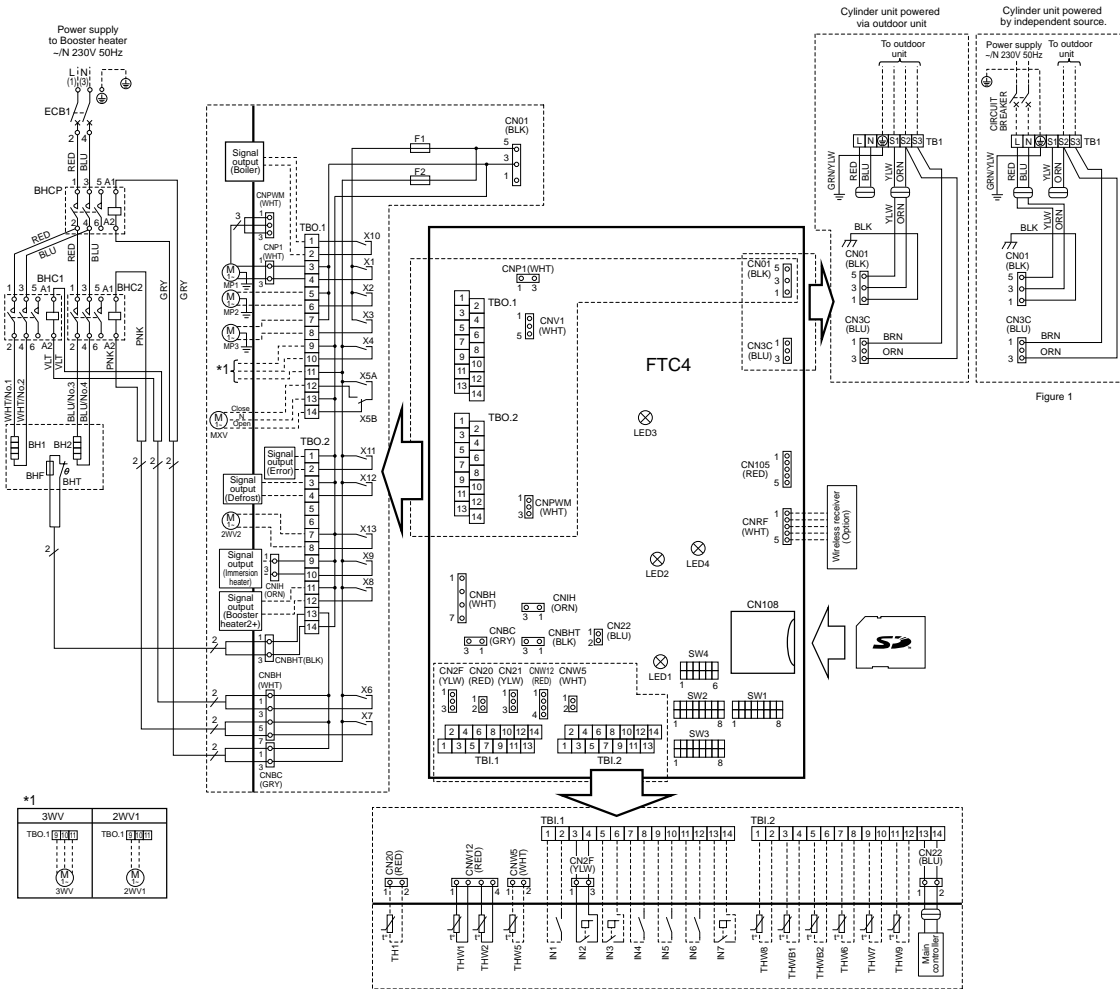

Figure 1
- This diagram shows the wiring of indoor unit and outdoor unit connecting wires (specification of 230V), adopting superimposed system of power and signal. When work to supply power separately to indoor unit and outdoor unit was applied, refer to Figure 1.
4. This diagram shows the wiring of indoor unit and outdoor unit connecting wires (specification of 230V), adopting superimposed system of power and signal. When work to supply power separately to indoor unit and outdoor unit was applied, refer to Figure 1.